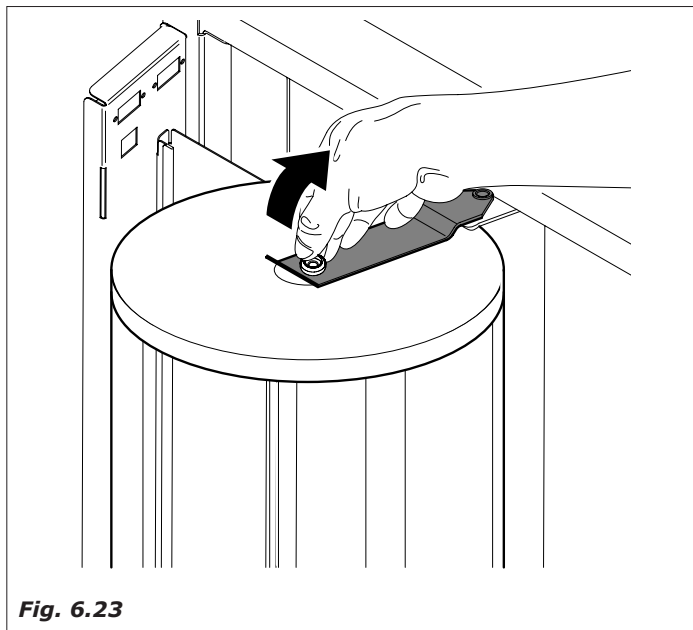

Fig. 6.23
- Lift the bracket and remove the cup column (Fig.6.23)